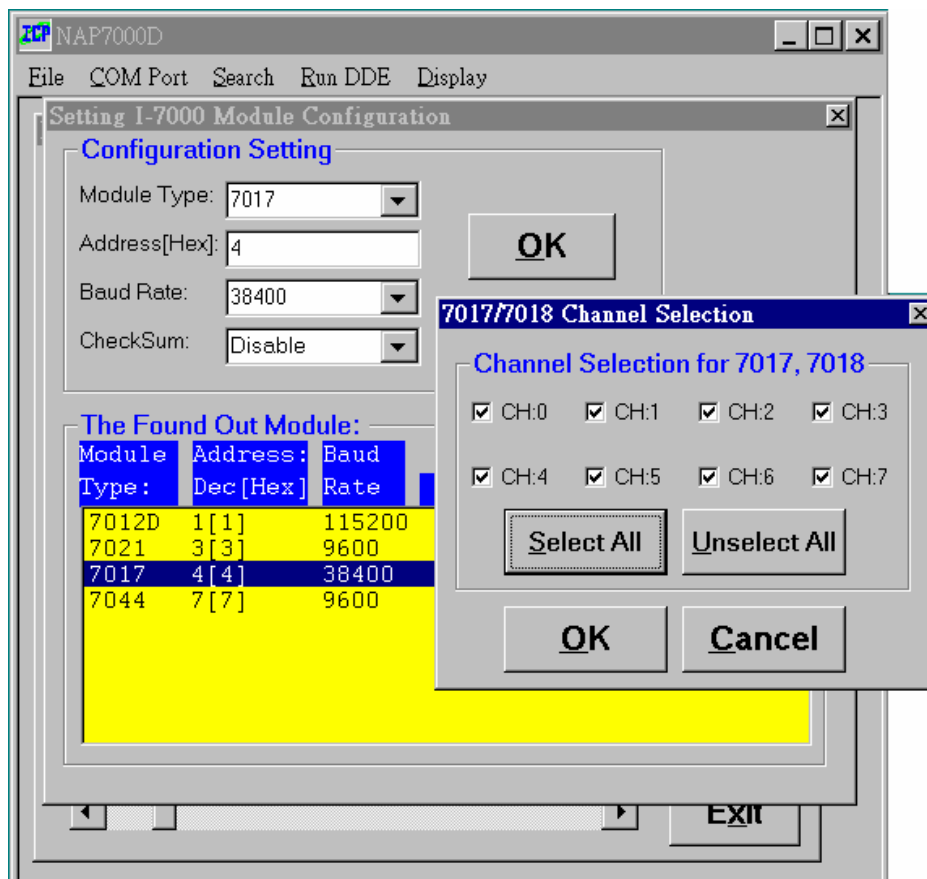

Fig 3-1.
Step 1: Setting the configuration of the CB-7017, and select all channels as Fig 3-1 shown. Then click **OK** button to accept the channel selection.
Step 1: Setting the configuration of the CB-7017, and select all channels. Then click **OK** button to accept the channel selection. Please referring Fig 3-1.